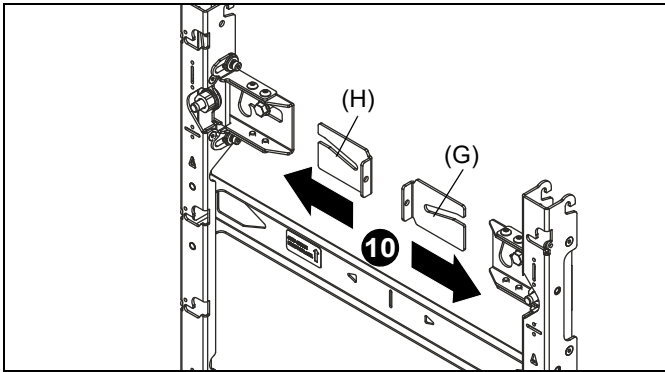

Figure 9
- Slide the left (H) and right adjustment washers (G) into place behind the partially installed lag screws. (See Figure 9)